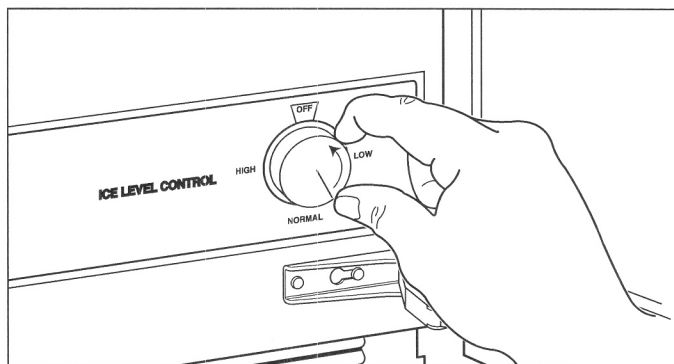

Figure 4-15. Decrease Ice Level
1. To lower the ice level, turn the control knob counter-clockwise. Usually 1/8 turn will be enough. (See Figure 4-15)